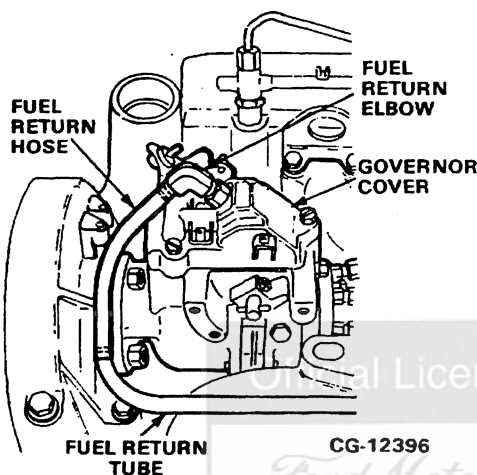

Figure 9.27. Removing Fuel Return Line
6. Remove the fuel return hose and clip from the 90° elbow at the governor cover. Cap opening at the governor cover elbow. Refer to Figure 9.27.